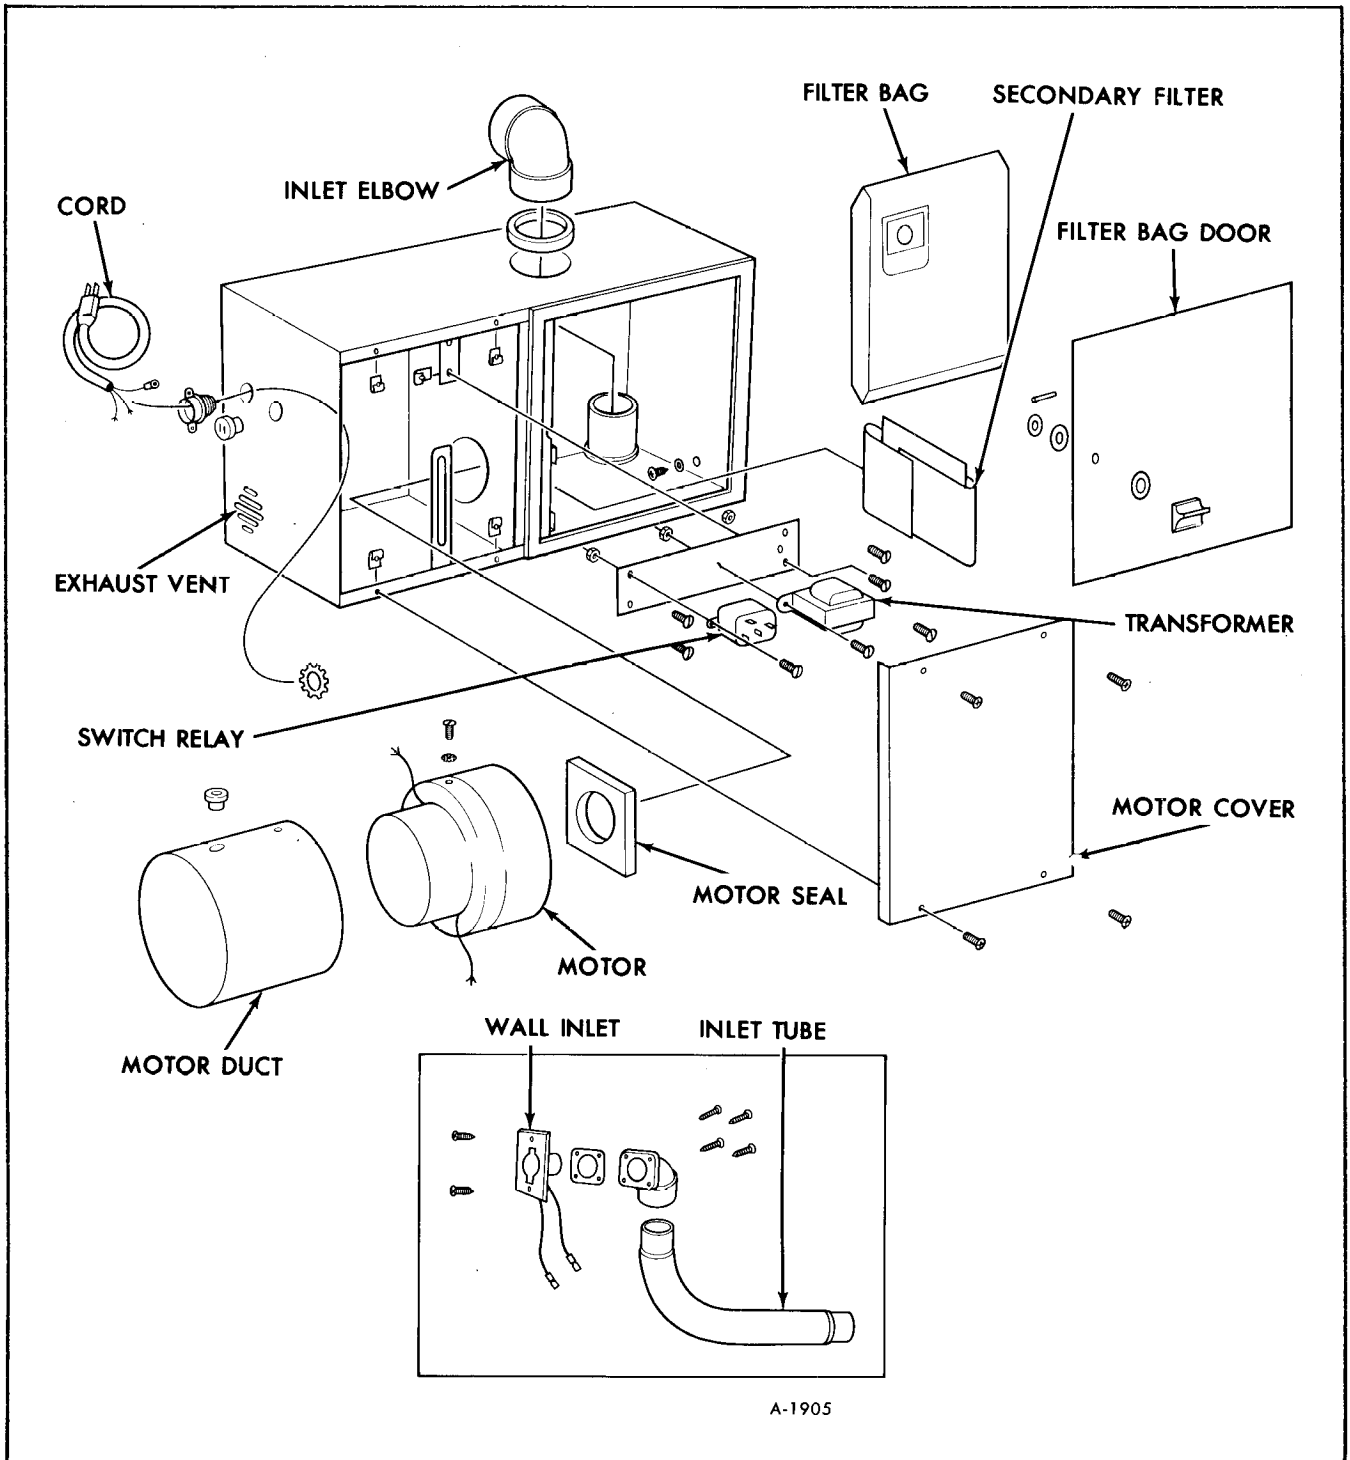

Figure 3-Vacuum Cleaner Components
a. Unplug the 120-volt motor wires at the relay (See figure 3).
## VACUUM MOTOR REPLACEMENT (FIGURE 3)
2. Remove motor compartment cover (See figure 3).
5. Remove motor and motor duct from cabinet (figure 3).
2. Install motor and motor duct in vacuum cabinet making sure motor seal is properly positioned (figure 3).